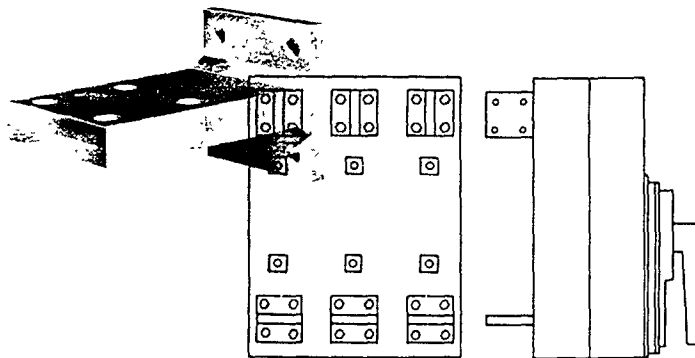

Fig. 10. Typical T-Stud connector
1. T-Studs (Fig. 10) are to be mounted to the breaker line and load straps. They may be rotated 90 degrees for vertical or horizontal positioning. If the installation requires connectors that are different from the T-Studs furnished, consult the factory for pertinent details before proceeding.